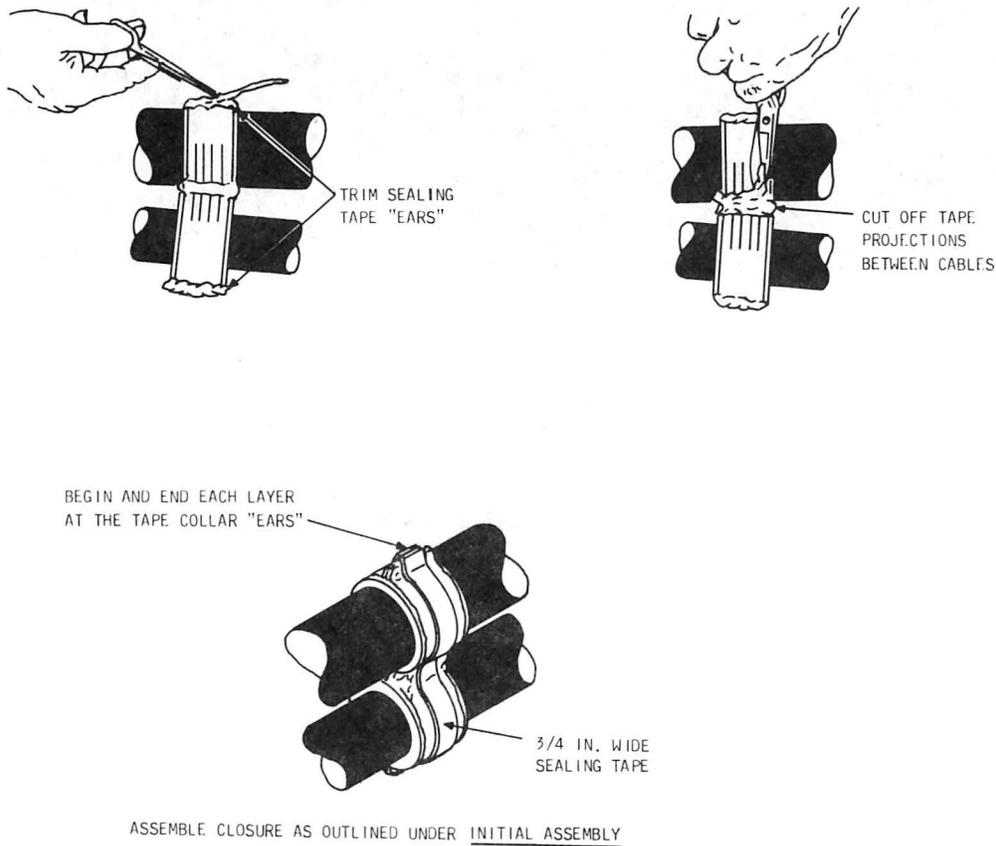

Fig. 24—Installation of Closure Using D-180995 Kit of Parts
4.04 If reentry seal was used, reassemble closure as shown in Fig. 24.